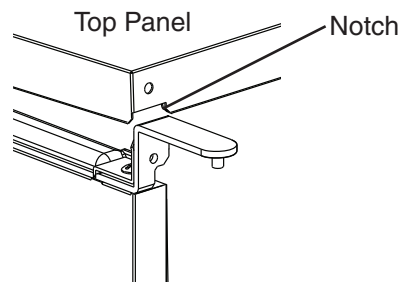

Fig. 14
- Rotate the top panel 180° from its previous position. This brings the notch that was previously in the right rear to the left front. See Fig. 14. Hook the rear part of the panel on the body, then secure the front with the 2 screws removed in step 6b.